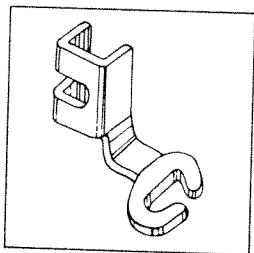

Fig. 33
2. Remove zigzag presser foot and attach button sewing foot. (Fig.33).